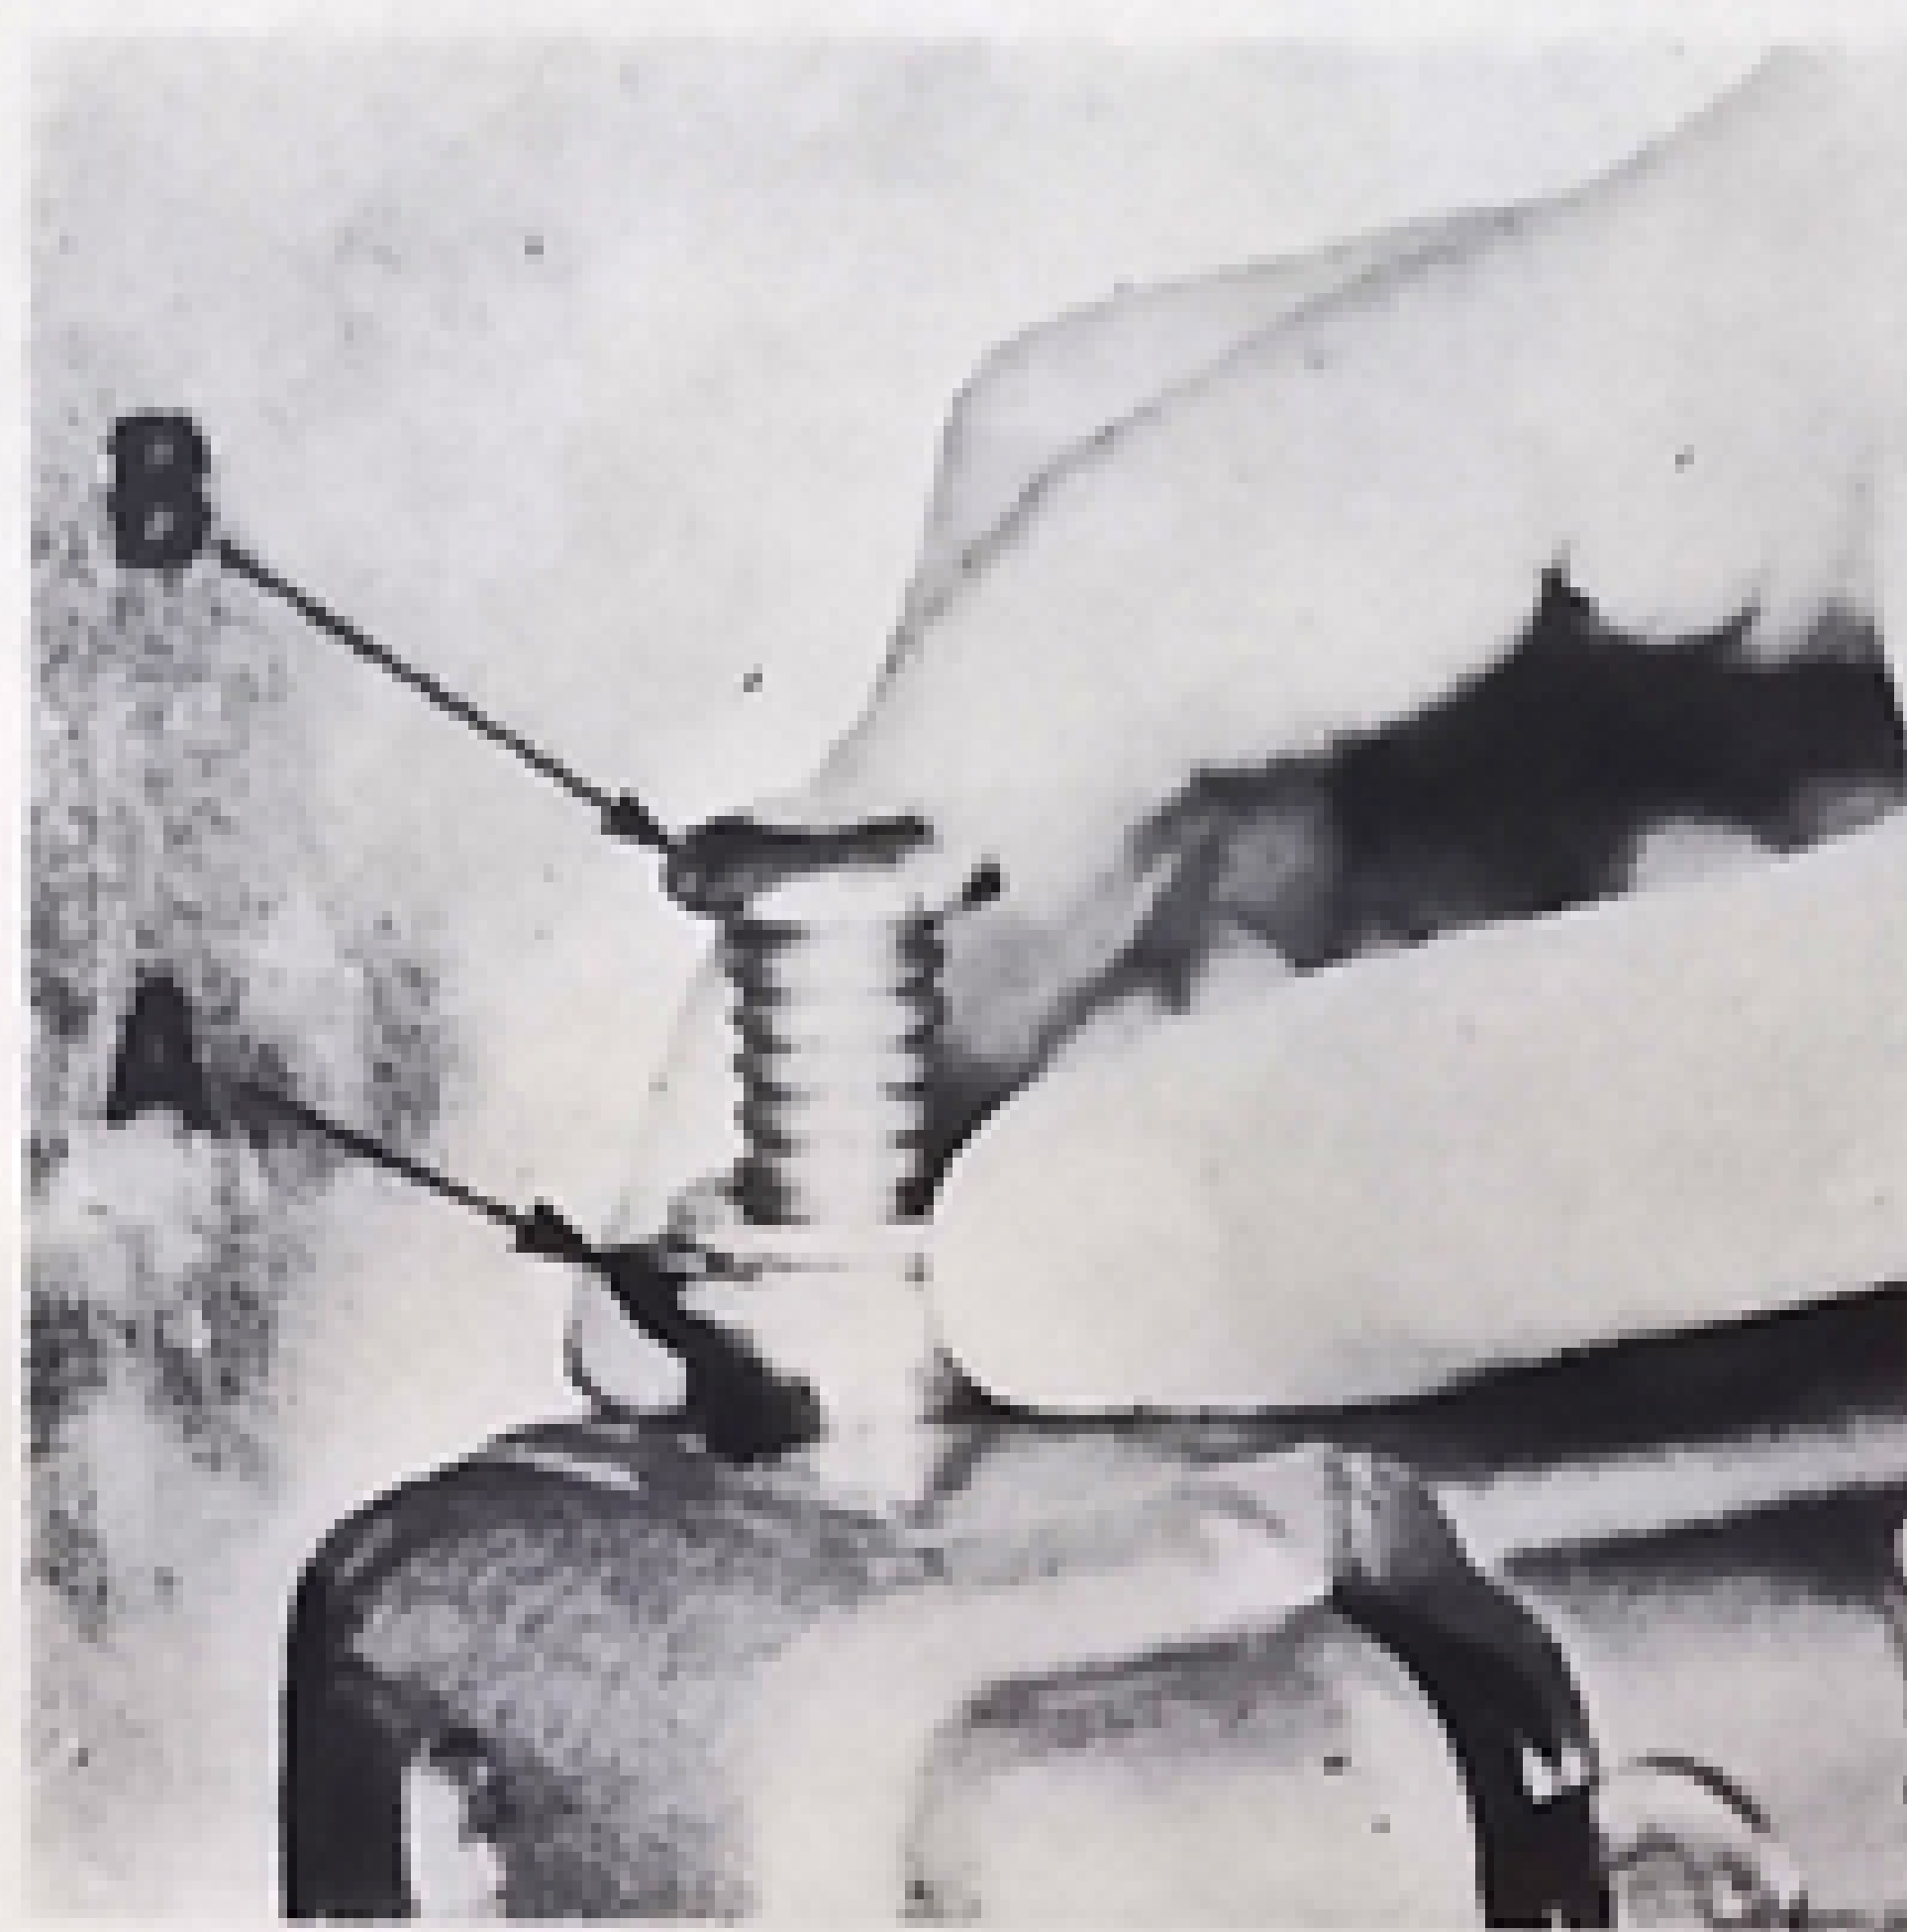

Fig. 26 A
Then press the Release Finger (A) as shown in Fig. 26, and the pressure on the presser foot will be completely relieved.
You will find that different materials require different pressures for perfect sewing. Find the correct pressure, press down the pressure regulator (B) as shown in Fig. 26 a step at a time until the suitable pressure is obtained.